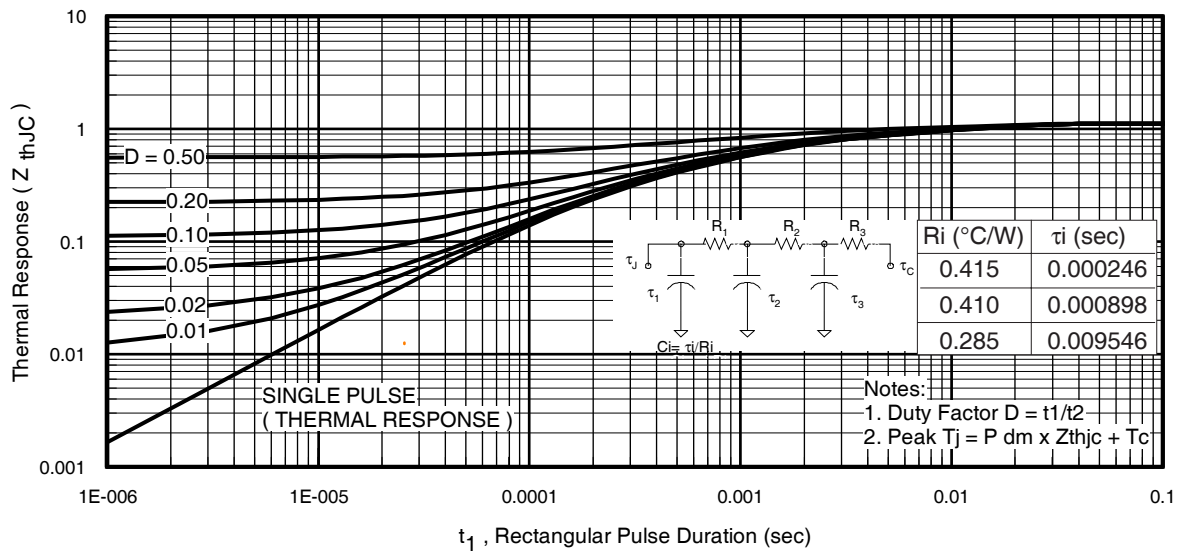
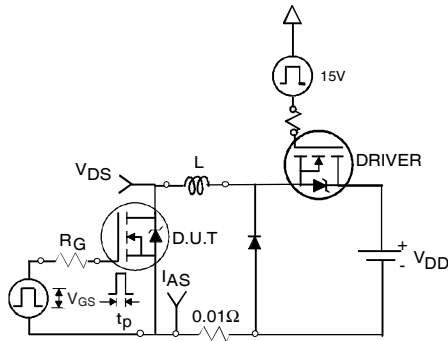

Fig 11. Maximum Effective Transient Thermal Impedance, Junction-to-Case
Fig 12a. Unclamped Inductive Test Circuit
- ① Repetitive rating; pulse width limited by max. junction temperature. (See fig. 11).
- ② Limited by T_{Jmax} , starting $T_J = 25^\circ\text{C}$, $L = 0.077\text{mH}$, $R_G = 25\Omega$, $I_{AS} = 51A$, $V_{GS} = 10V$. Part not recommended for use above this value.
- ③ $I_{SD} \leq 51A$, $di/dt \leq 260A/\mu s$, $V_{DD} \leq V_{(BR)DSS}$, $T_J \leq 175^\circ\text{C}$.
- ④ Pulse width $\leq 1.0\text{ms}$; duty cycle $\leq 2\%$.
- ⑤ $C_{oss \text{ eff.}}$ is a fixed capacitance that gives the same charging time as C_{oss} while V_{DS} is rising from 0 to $80\% V_{DSS}$.
- ⑥ Limited by T_{Jmax} , see Fig.12a, 12b, 15, 16 for typical repetitive avalanche performance.
- ⑦ This value determined from sample failure population. 100% tested to this value in production.
- ⑧ This is applied to D²Pak, when mounted on 1" square PCB (FR-4 or G-10 Material). For recommended footprint and soldering techniques refer to application note #AN-994.
3. Equation below based on circuit and waveforms shown in Figures 12a, 12b.
$Z_{thJC}(D, t_{av})$ = Transient thermal resistance, see figure 11)